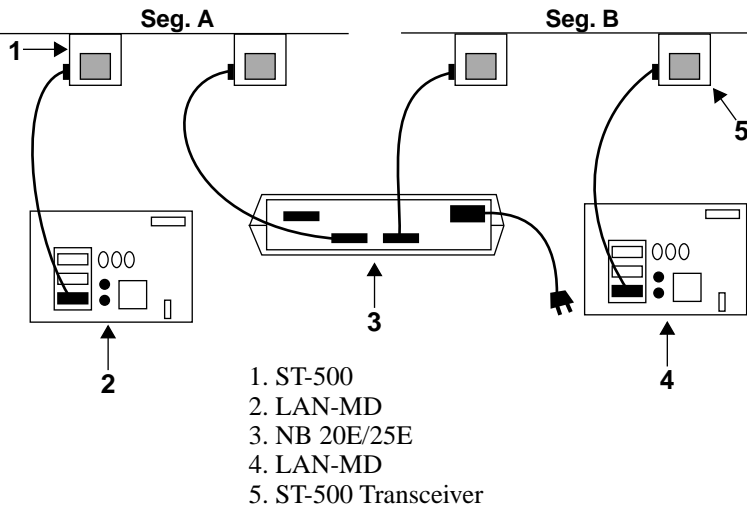

Figure 4-2 Check Out Configuration
2. Using a transceiver (1, Fig. 4-2) and an AUI cable, connect a LAN-MD (2) to one of the segments connected to the bridge (3).